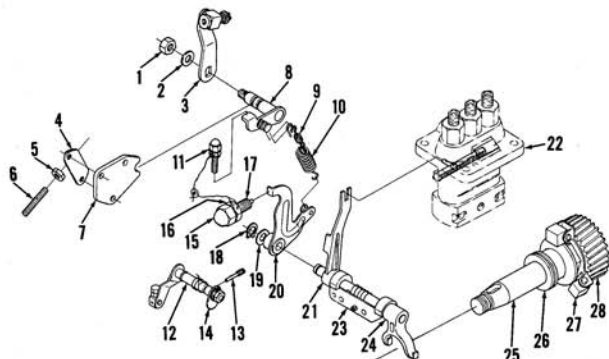

Fig. Y1-24—Exploded view of fuel control system used on Yanmar marine diesel engines.
After installation of fuel injection pump or timing gear case, injection limiter must be adjusted to ensure adequate fuel enrichment under load and smooth acceleration. Remove injection pump adjustment cover (7—Fig. Y1-24). Place engine stop lever (12) in the run position and speed control lever (3) in full speed position. Remove injection limiter cap nut (15), loosen locknut (16) and back out injection control shaft (17) until plunger in end of shaft no longer touches fuel control lever (20). Using governor lever (21) align injection pump fuel control rack center mark (M—Fig. Y1-25) with reference face (F) as shown in Fig. Y1-25. Slowly turn injection control shaft (17—Fig. Y1-24) clockwise until plunger in end of shaft just touches fuel control lever (20). Tighten locknut (16) and install cap nut (15). If, after careful adjustment of injection limiter, engine speed is not well controlled, turn injection limiter counterclockwise slightly. If injection limiter is turned out too far engine will produce excessive exhaust smoke. After adjustment, secure
Adjustment of Model 3HM injection limiter is basically the same as all other models except fuel stop lever (12—Fig. Y1-24) is used to properly position injection pump fuel rack center mark with reference face, as shown in Fig. Y1-26, instead of fuel control lever.